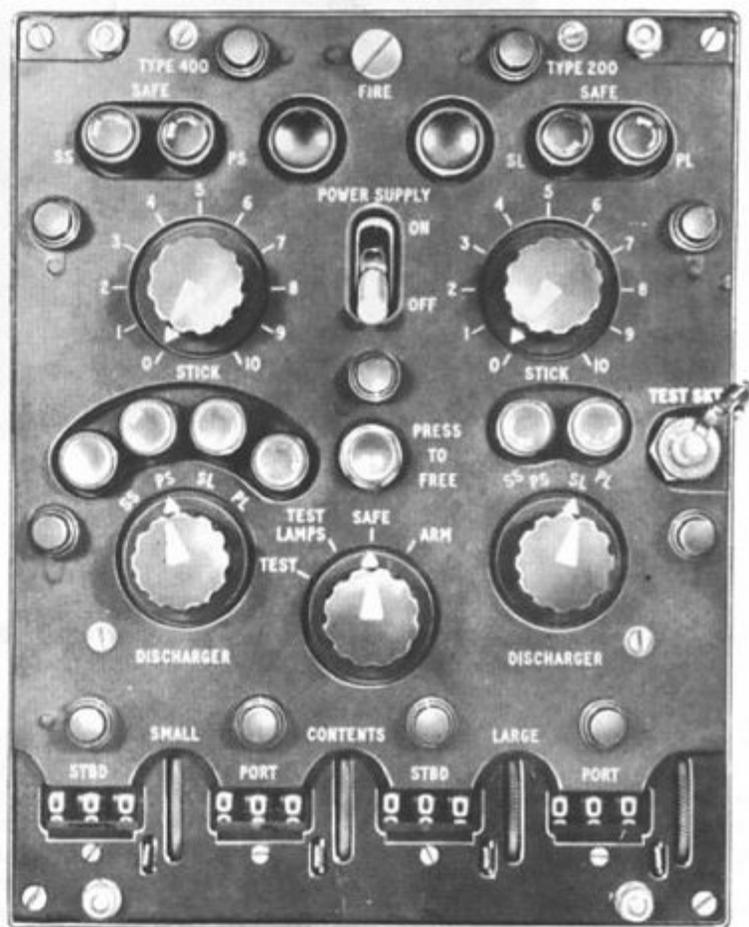

Fig 9 Selector unit front panel
44. Check that the selector box power supply switch is 'OFF' and that the aircraft 28V and 200V external power supplies are 'ON'. With the TEST/TEST LAMPS/SAFE/ARM switch on the selector box at the 'SAFE' position, operate the selector box power supply switch; the 2 green SAFE indicator lamps on the selector box should light (Fig 9).